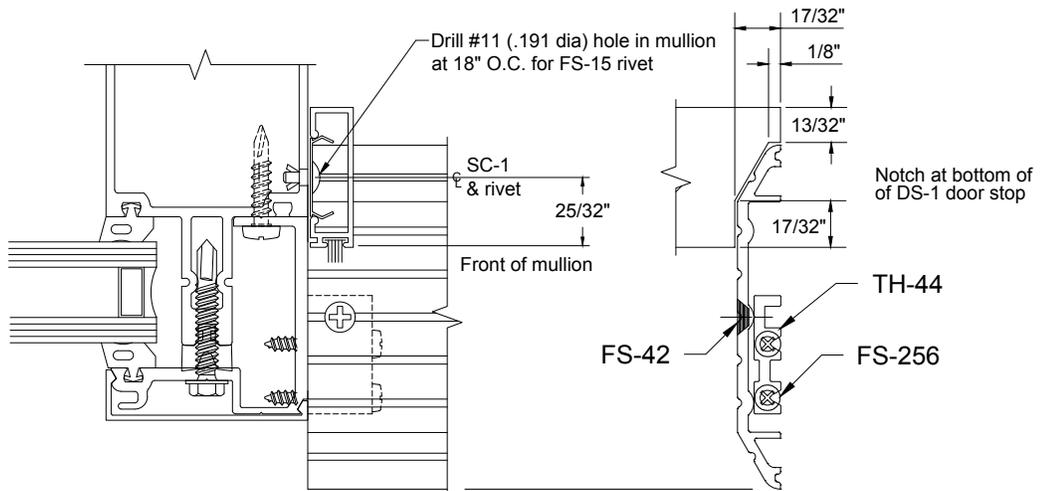

Figure 44
- C.3.5 Bed threshold in sealant, attaching to TH-44 clips with FS-42 #12 x 1/2" Phillips Flat Head screws. Marry threshold seal with subframe and main system seal. **See FIGURE 44, page 40.**
- C.3.6 Drill #11, .191 diameter holes in curtain wall mullions for FS-15 rivets. Install door stops onto mullion with SC-1 clips at 18" O.C. **See FIGURE 44, page 40.** Vertical stops run through.